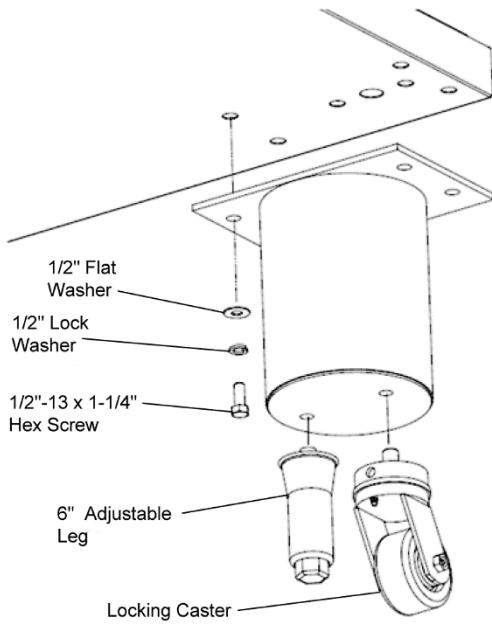

Figure 15. Leg Extension and Caster Installation
1. Install the four leg extensions onto the base pad using the 1/2"-13 x 1-1/4" hex screws, 1/2" flat washers and 1/2" lock washers supplied in the base pad kit. See Figure 15. Check that the orientation of the adjustable 6" leg holes in the leg bottom is consistent (all to the inside or all to the outside). The adjustable leg mounting hole is closer to the edge of the leg than the caster mounting hole. Install the spring clip for the oven restraining cable to the hole in the bottom middle of the base pad. This clip will attach to the restraint cable that keeps the oven from moving too far when installed on casters.